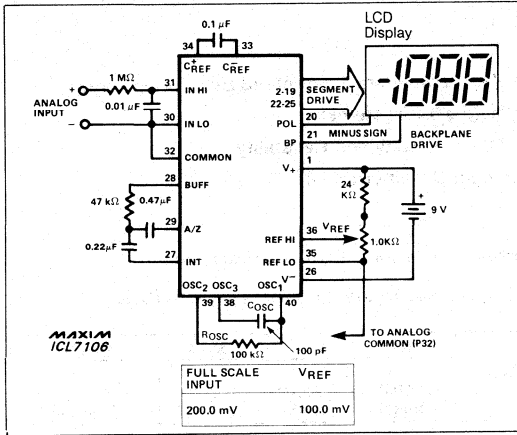

Figure 1. Maxim ICL7106 Typical Operating Circuit
(V+ = 9V; TA = 25°C; fCLOCK = 48kHz; test circuit - Figure 1; unless noted)
**Note 6:** Test condition is VIN applied between pin IH-HI and IN-LO through a 1MΩ series resistor as shown in Figures 1 and 2.
**Note 10:** 1MΩ resistor is removed in Figures 1 and 2.